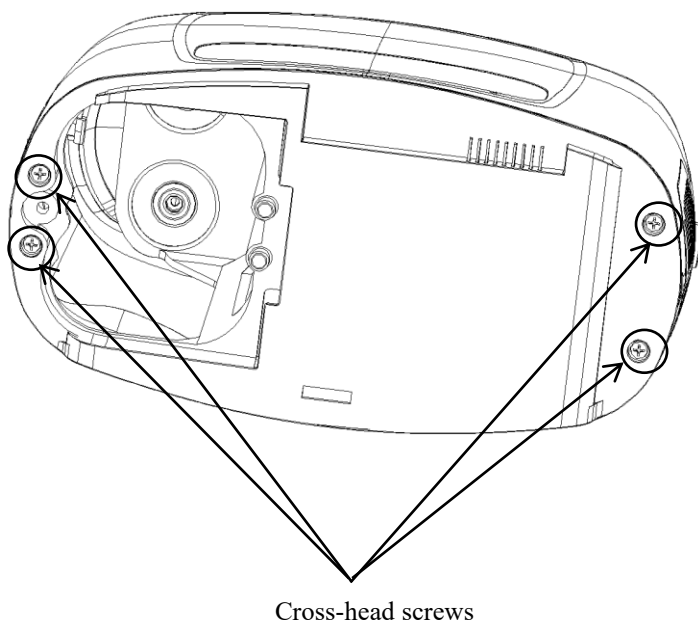

Figure 12 Replace the main shell body (1)
1. Use a Phillips screwdriver to unscrew the four cross-head self-tapping screws securing the lower shell assembly of the Portable Medical Oxygen Concentrators (Refer to Figure 12).